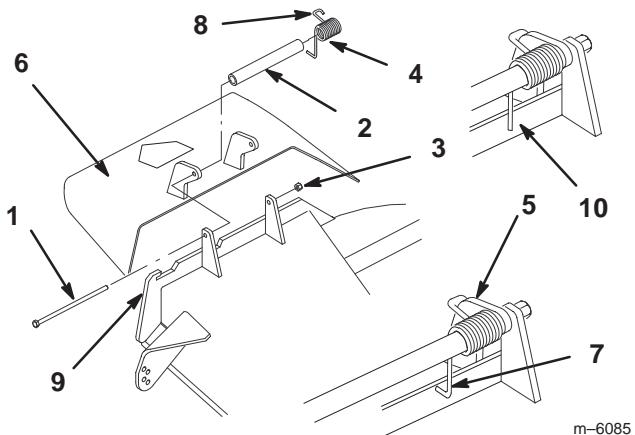

Figure 30
The grass deflector spring will have either an **L** end or a straight end (Fig. 30).
Note: Make sure the **L** or the straight end of spring is installed behind deck edge before installing the bolt as shown in figure 30.
2. Install bolt and nut. Place **J** hook end of spring around grass deflector (Fig. 30).